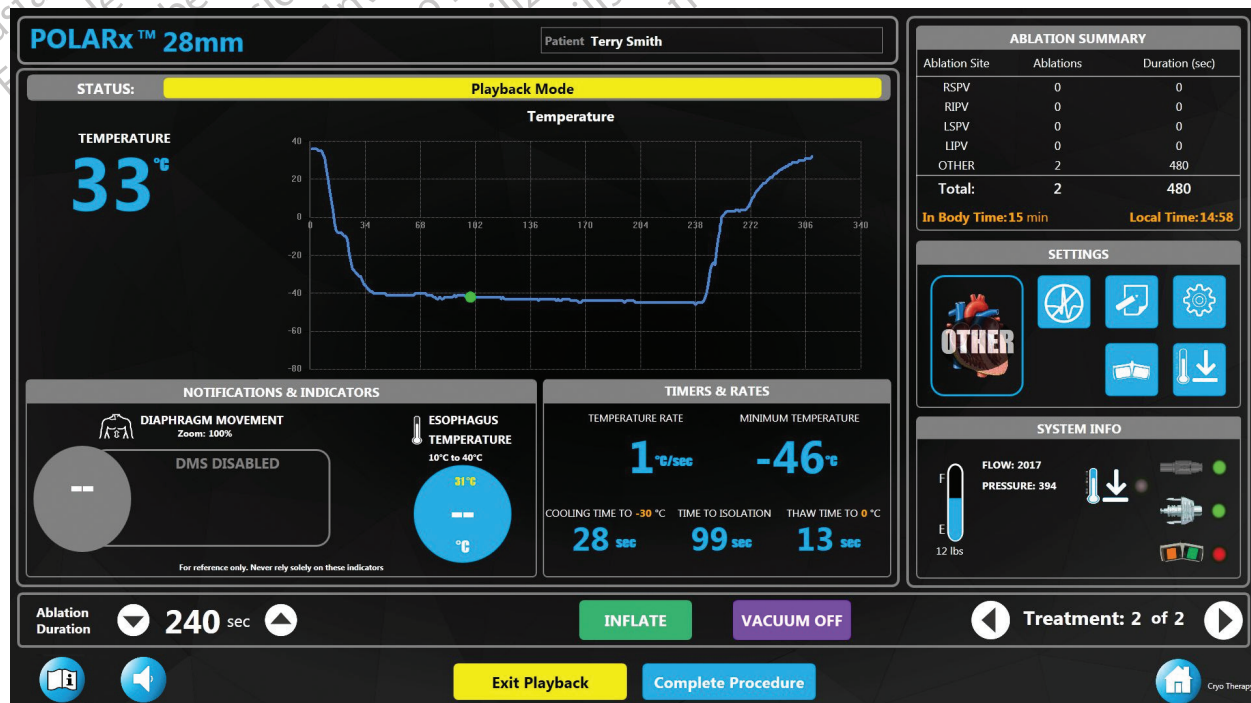

Figure 16. Playback mode
- The PLAYBACK button appears allowing data from the previous ablations to be reviewed. Press the PLAYBACK button to enter the Playback Mode, shown in Figure 16.
- Use the Treatment arrows (Figure 16) to display data from previous treatments within the current procedure.
1. When treatment is completed, press the Complete Procedure button on the Therapy screen (Figure 15) or the Playback screen (Figure 16).